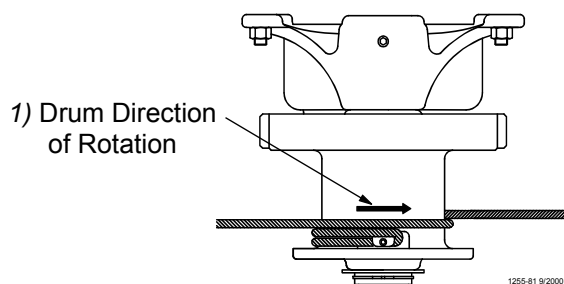

Figure 11. Power Winch Drum Rotation
5. Turn the winch drum one full revolution. Guide the cable against the flange at the bottom of the winch drum. The cable must not wrap over itself on the drum, but should be wrapped as close as possible to each previous wrap. See **Figure 11**.